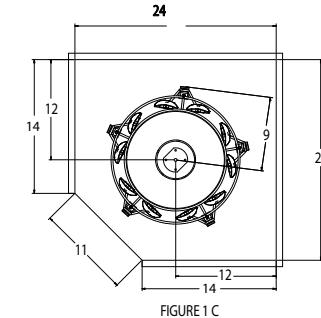

FIGURE 1 C
1. The dimensions shown in figure 1 a, b, c are minimum.